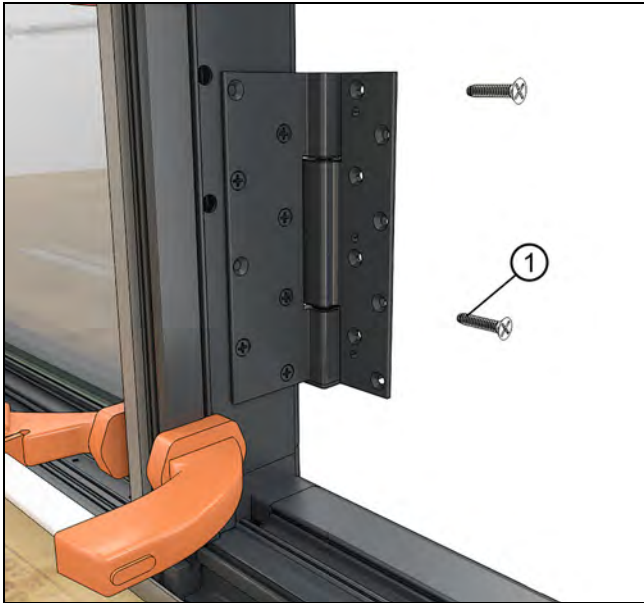

Figure 200 Outswing hinges shown.
22. Install the appropriate trilobular fasteners to attach through the hardware and frame into the mull pin (attached to the unit next to it). See Figure 200 through Figure 203. See the table from step 11 on page 50 for appropriate fasteners and locations.